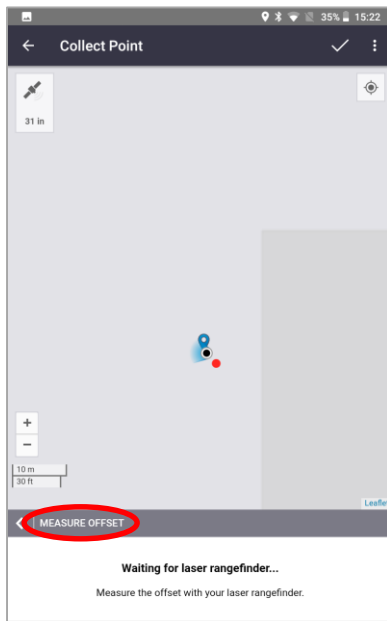

Figure 9
9. Aim at the target and **Fire** the laser (Figure 9)